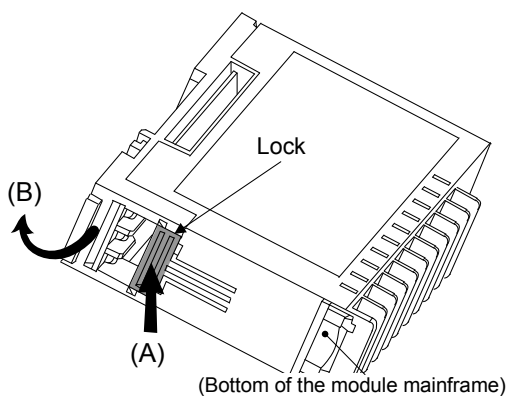

Fig. 1: Removing the base
2. Remove the base from the module (B) while the lock is pressed (A). (Fig. 1)